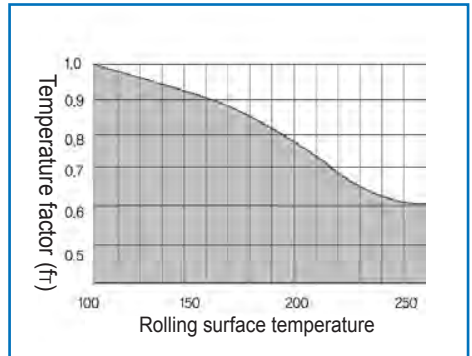

Figure 3. Temperature factor (f_T)
Each value of basic dynamic load rating (C) is stated in the catalogue. (Refer to Fig. 3)
Basic static load rating defines a static load to be given a regular contact stress in the middle of contacting portion both of a rolling body with the maximum load and a track. (Refer to Fig. 3)